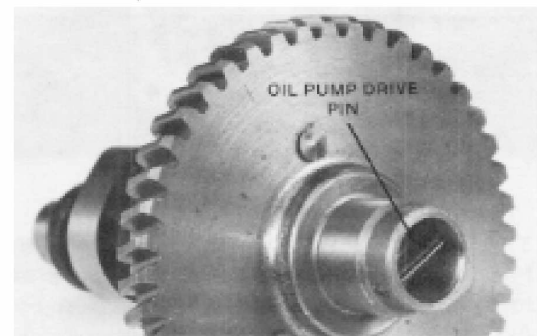

Figure 4-25
3. The cam gear may now be removed from the crankcase. Note the oil pump drive pin in the end of the shaft. See Fig. 4-25.